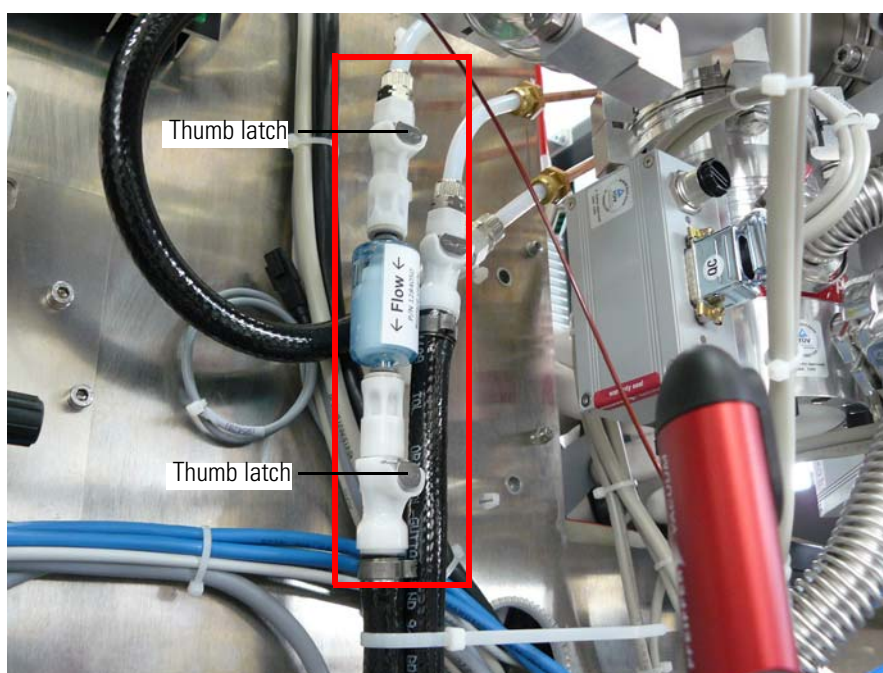

Figure 6-50. Installed water filter
3. The filter is installed on the left instrument side, in the cooling lines of the Orbitrap system between the Peltier element and the flow sensor. See Figure 6-50. Quick couplings connect the filter assembly to the hoses of the cooling lines. Press the thumb latch of each quick coupling to release it. Valves in the couplings prevent the water from leaking out. Then remove the complete filter assembly.